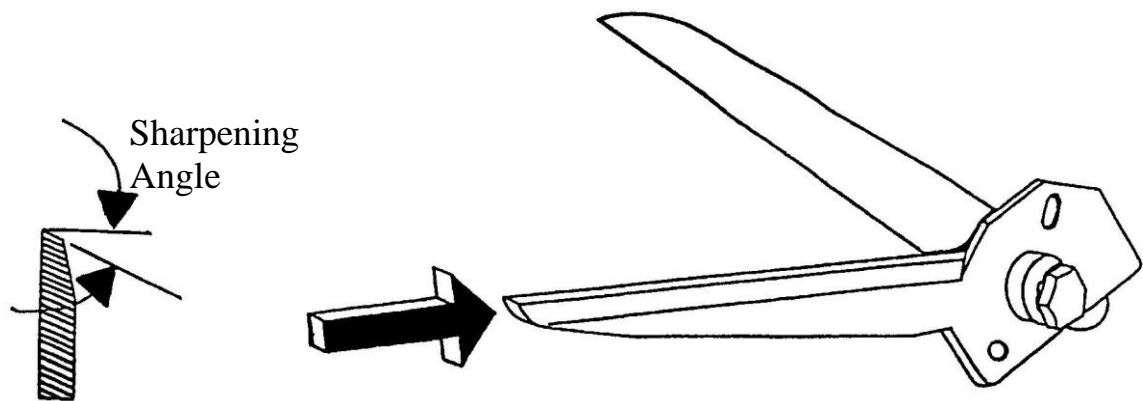

Figure 3
8.2 Sharpening Angle Determination and Selection (See Figure 3)